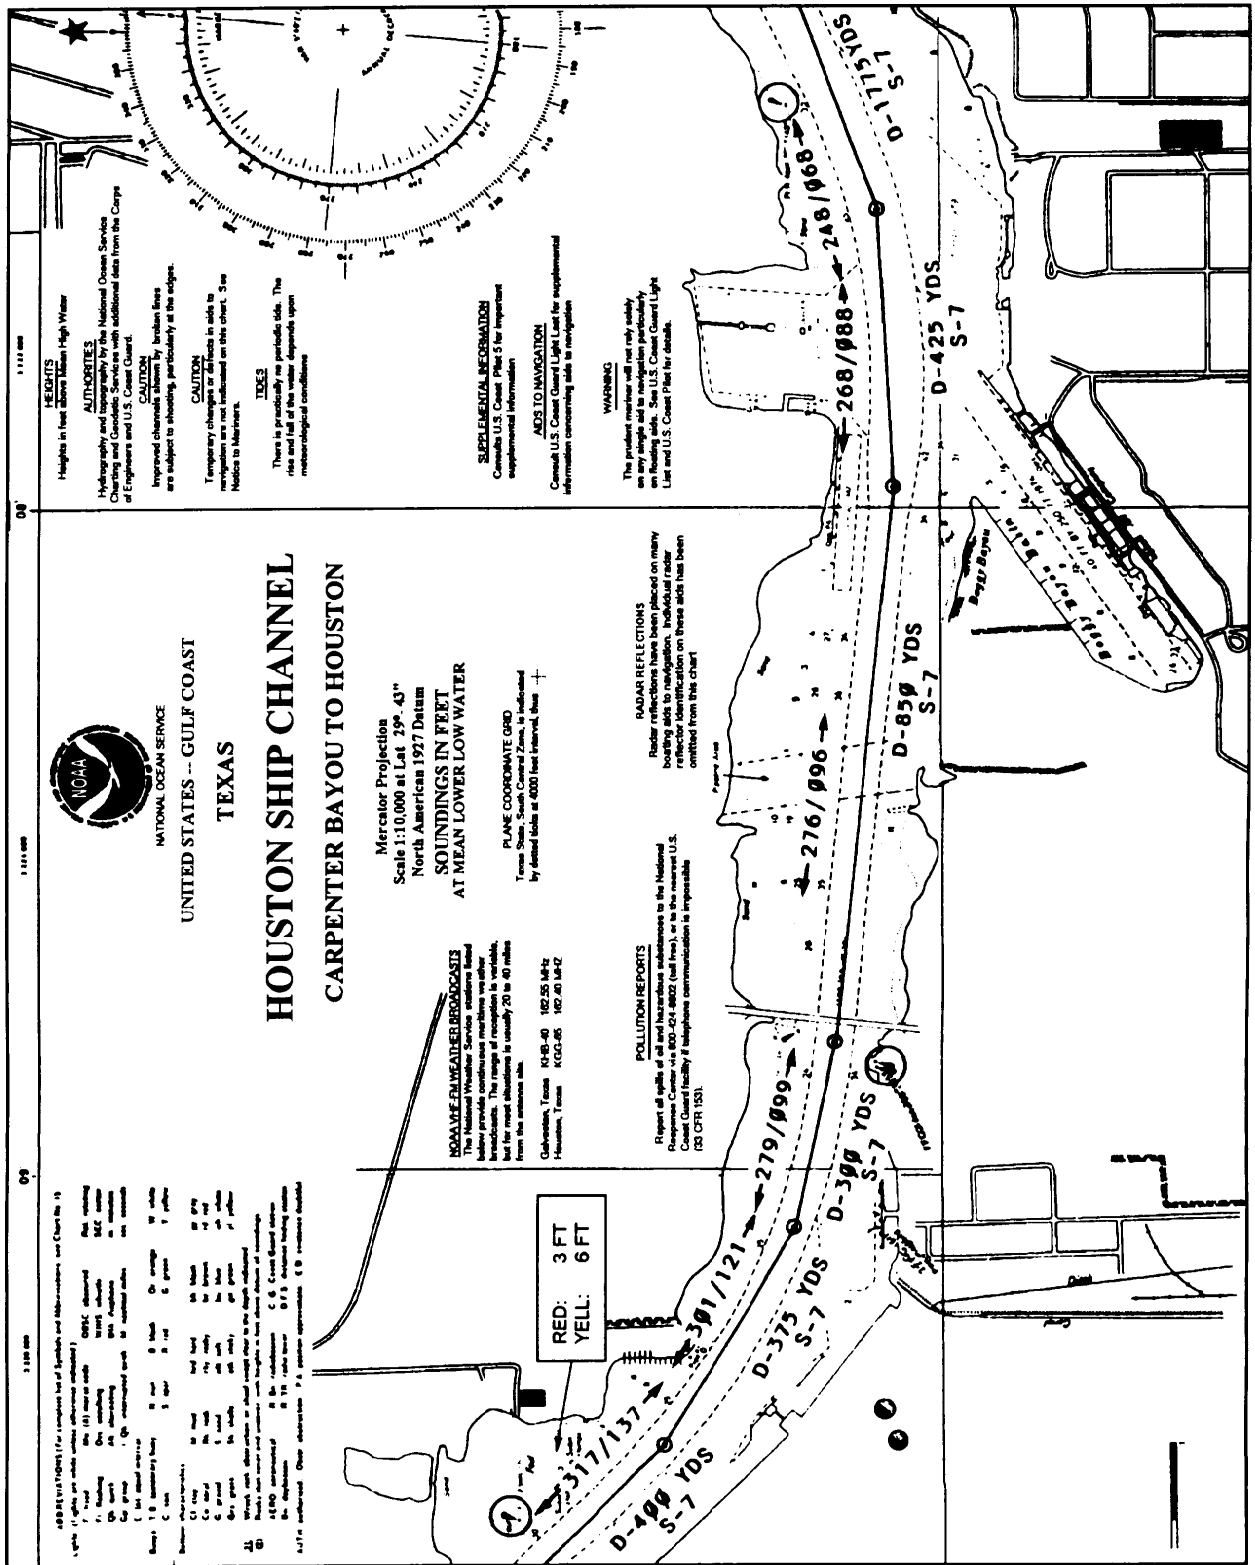

Figure 12-7. Example restricted water track.
2.	<p>Lay down intended tracks. Normally, the intended track is laid down in the middle of the channel (see fig. 12-7). The only exceptions are very wide channels with mid-channel buoys where the track is laid in the center of one-half of the channel.</p> <p>Turn points are normally established by the intersection of two course lines that have been laid for different legs of the track.</p>